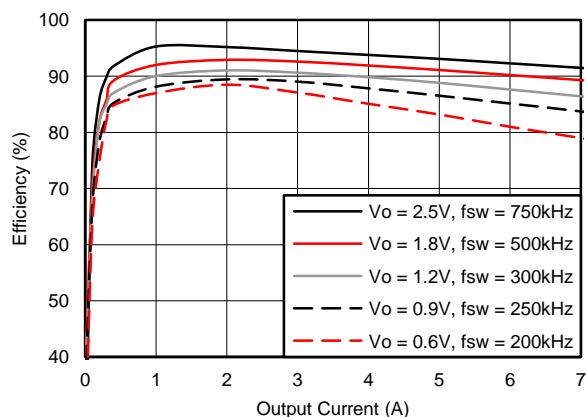
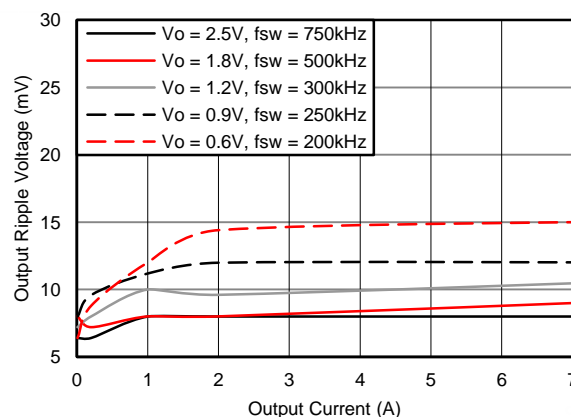
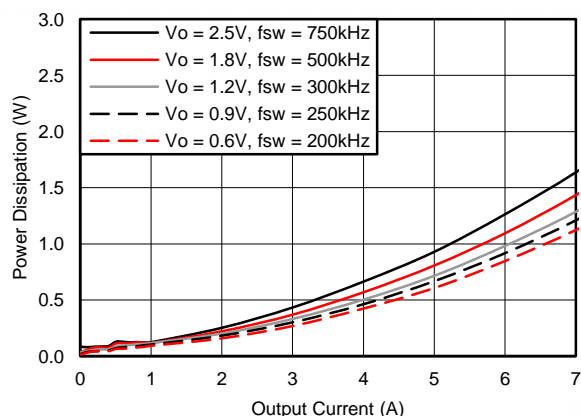

Figure 12. Efficiency vs. Output Current
Figure 13. Voltage Ripple vs. Output Current
Figure 14. Power Dissipation vs. Output Current
- (1) The electrical characteristic data has been developed from actual products tested at 25°C. This data is considered typical for the converter. Applies to Figure 12, Figure 13, and Figure 14.